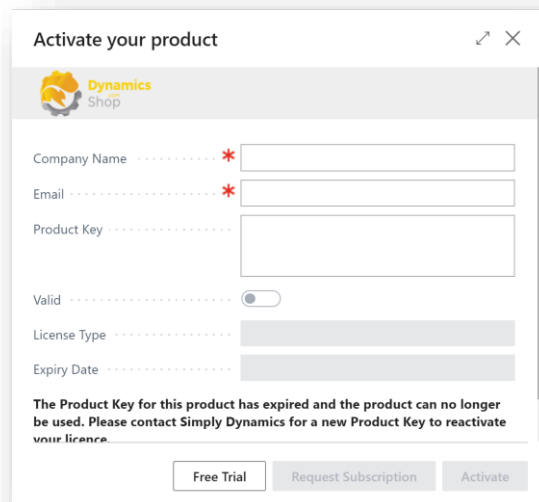

Figure 3-10
1. In the **Activate your Product** page (Figure 3-10)